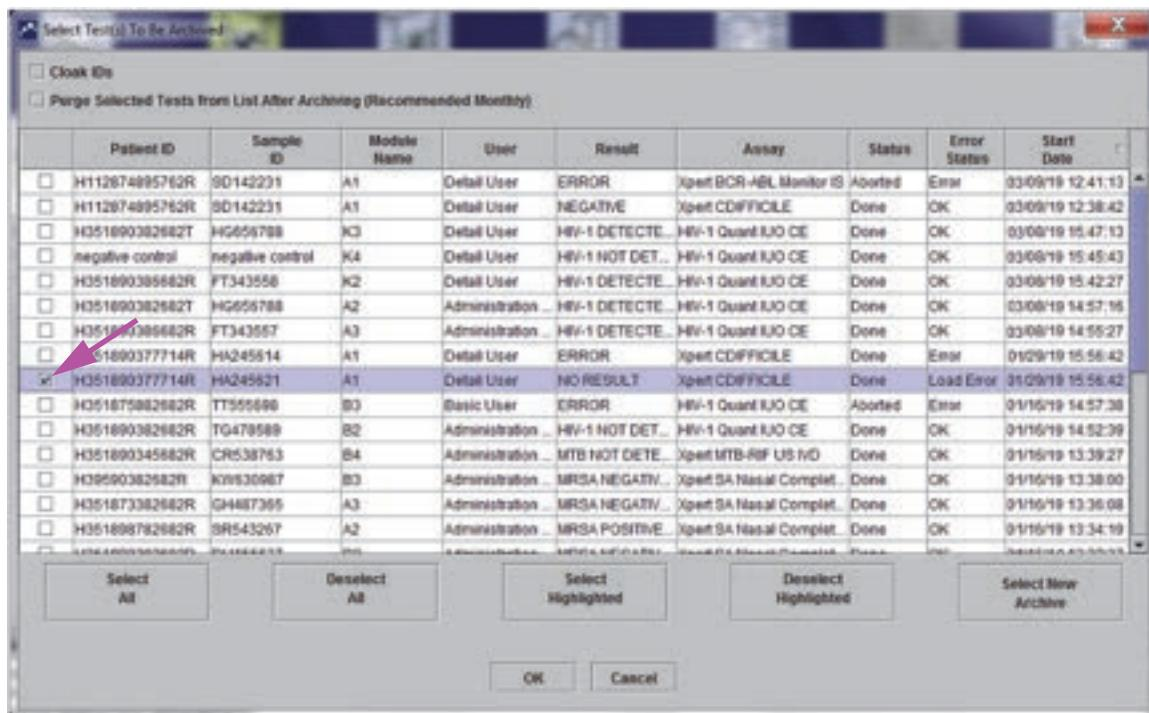

Figure 5-70. Select Test(s) To Be Archived Dialog Box
1. In the GeneXpert Dx System window, on the **Data Management** menu, click **Archive Test**. The Select Test(s) To Be Archived dialog box appears. See Figure 5-70.
- Select the test(s) you want to archive. Click the check box that is adjacent to each test you want to archive. See Figure 5-70. You can select the individual tests one-by-one, or select a large number of tests by clicking one of the following buttons at the bottom of the Select Tests To Be Archived screen:
When the **Cloak IDs** check box, located in the top left area of the Select Test(s) To Be Archived dialog box, (see Figure 5-70) is checked, all information about the sample ID and patient ID is cloaked.